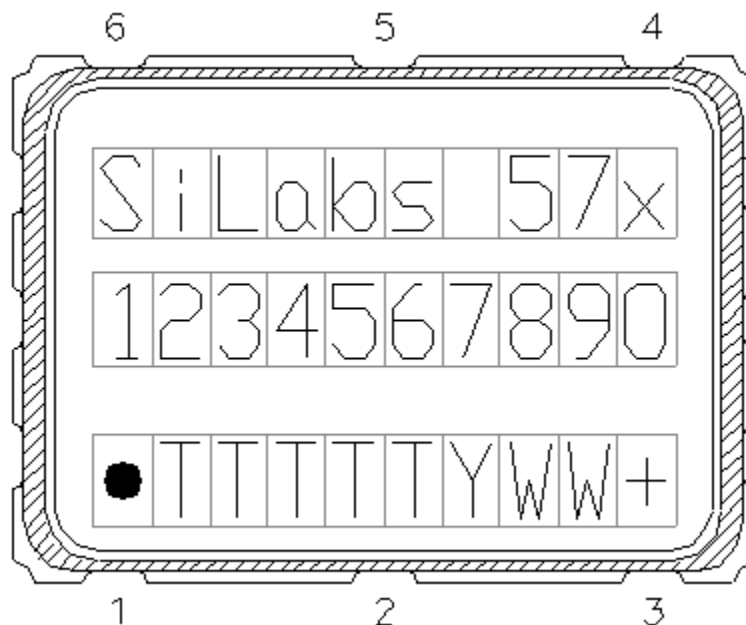

Figure 7. Mark Specification
Figure 7 illustrates the mark specification for the Si57x. Table 16 lists the line information.
- Updated Figure 7 and Table 16 on page 33 to reflect specific marking information. Previously, Figure 7 was generic.